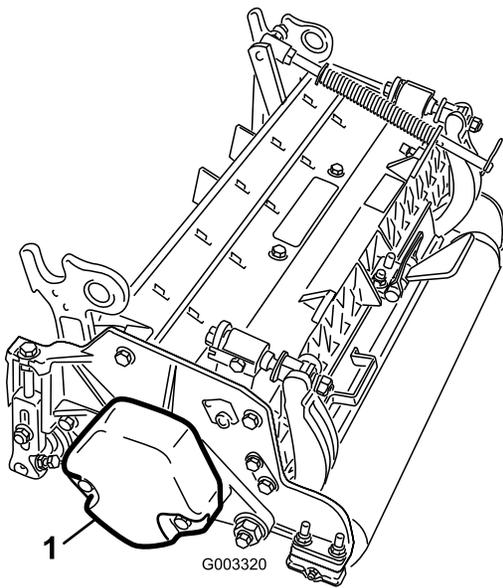

Figure 5
3. Make sure that the counterweight (Figure 5) is installed at the proper end of the cutting unit as described in the cutting unit *Operator's Manual*.